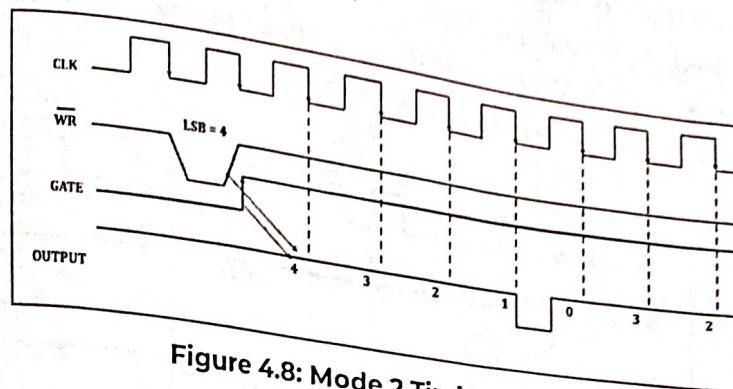

Figure 4.8: Mode 2 Timing Diagram.
- Figure 4.8 shows the Mode 2 Timing Diagram.